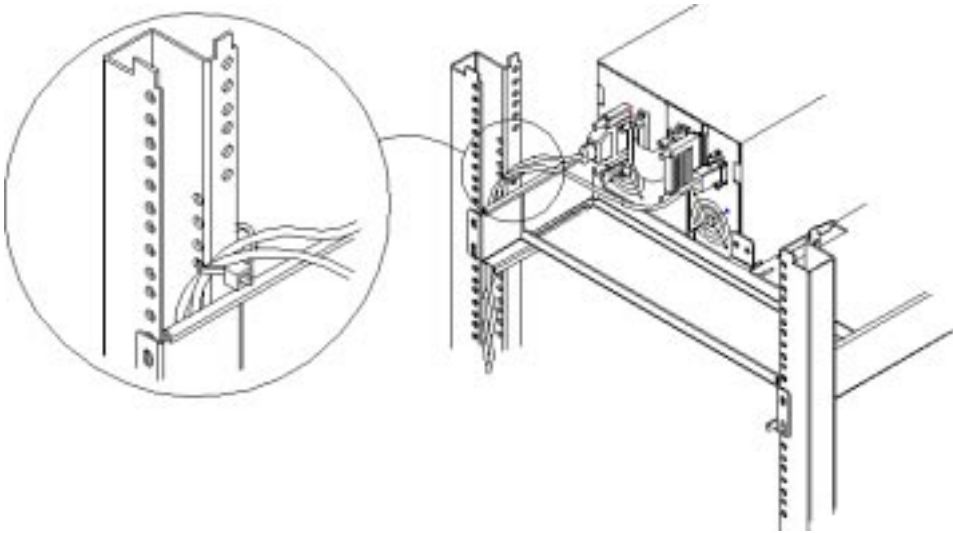

FIGURE 1-8 Cable Management
1. After connecting the external cables in Section 1.3, "Connecting the Autoloader," on page 1-14, thread a cable tie through the metal rail inside the rack (FIGURE 1-8).